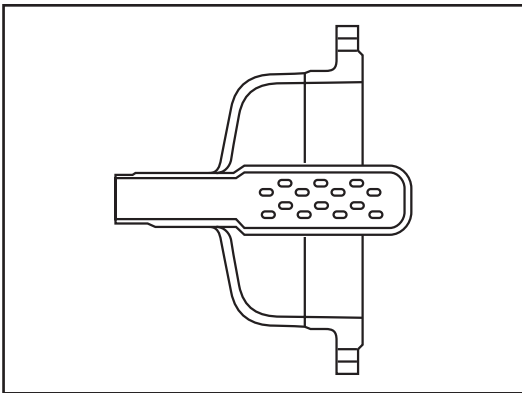

Figure 1
- NOTES: 1. Diffuser inlets for use on main valves with a NPT threaded outlet have NPT threads of the same size as the main valve (see figure 1).